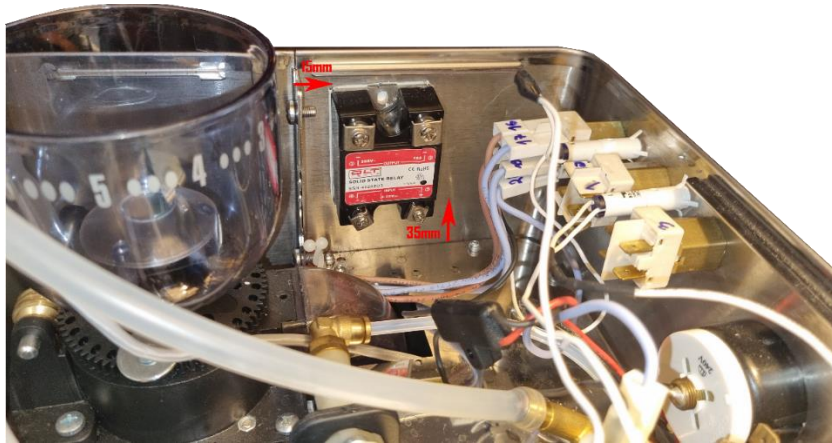

Fig. 3.2
- Prepare to glue the relay inside. Mounting position will be to the left side. Use an approximate position like in (fig. 3.2)